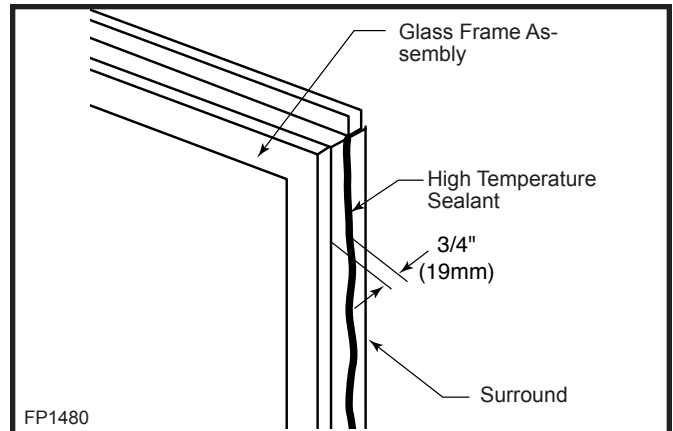

Fig. 25 Apply high temperature sealant on surround around glass frame assembly when unit is installed flush with wall.
1. If the fireplace is installed flush with the wall, a high temperature sealant must be applied to seal around the surround around the glass frame assembly 3/4" (19 mm) from the front edge of the surround. (Fig. 25)